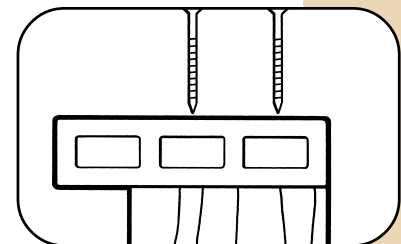

Fig. 31
- If using TimberTech Post Clad, cut the Post Clad to length as needed and fasten to all four sides of each 4x4 post (starting on one side and working around) offsetting each piece, using either finish or brad nails. Allow a 1/16" gap at the top and bottom of the post for expansion and contraction. Use two nails at the top then again at 12" intervals. Finish with two nails at the bottom (Fig. 31).
- Overhang the Top Rail on the outside of the 4x4 (outside of deck) to allow room for the TimberTech Side Rail (when installed) to be flush with the side of the Top Rail (Fig. 31).
- Pre-drill and place two #8, 2-1/2" stainless steel or galvanized deck screws through the Top Rail into each 4x4 post (Fig. 31). There should be a minimum 1/16" gap between each Top Rail to allow for expansion and contraction.